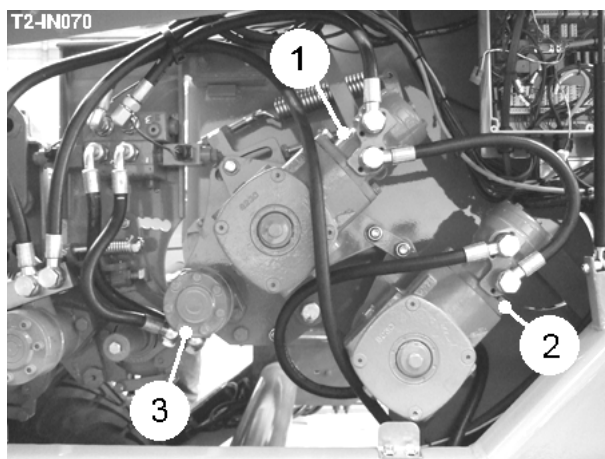
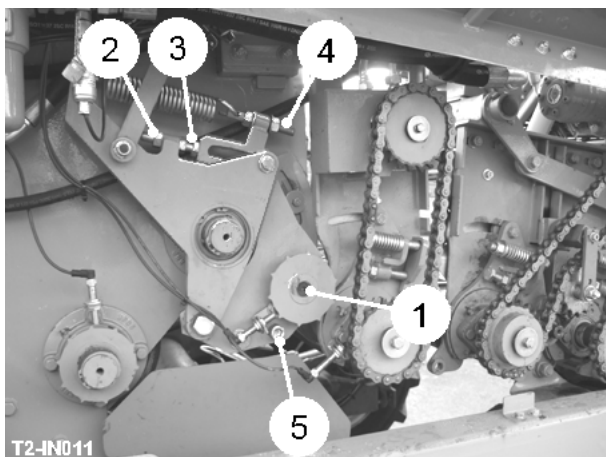

Fig 10
Fig 13
The 1630mm wide sieving web is available in 28mm, 32mm, 36mm, 40mm, 45mm and 50mm pitches to suit the crop and soil conditions being harvested. The sieving web drive uses the 'Standen Wrap Drive' configuration fitted with a reverse running assister drive on the return side. This gives a virtually slip-free drive under most conditions and eliminates web drive sprockets allowing for easy web pitch changes. The web is driven by two shaft mounted motor gearboxes. The hydraulic motor (item 1, fig 10) drives the main drive shaft. The motor (item 2, fig 10) drives the assister drive shaft.
The haulm roller (item 1, fig 13) is designed to pinch the haulm and trash and drop it onto the ground under the machine. The haulm roller is driven by the hydraulic motor (item 3, fig 10). Roller speed is controlled from the service terminal screen. For some types of crop such as onions etc. it is advantageous to reverse the direction of rotation of the haulm roller. To reverse the haulm roller, simply press the button  on the service terminal.
To increase/decrease the gap between the haulm roller and digger web, release the locknut (item 2, fig 13) and turn the setscrew (item 3, fig 13). The gap must be set equally on both sides. **Do not close the gap too much or the web joiner may foul the haulm roller causing damage to both.**
To increase/decrease the haulm roller spring tension, adjust the setting of the spring tensioner (item 4, fig 13). Adjust both sides evenly and check the setting by measuring the length of exposed thread on the spring tensioners.
The haulm roller is fitted with a scraper (item 5, fig 13). Set the scraper as close to the roller as possible without actually fouling it.